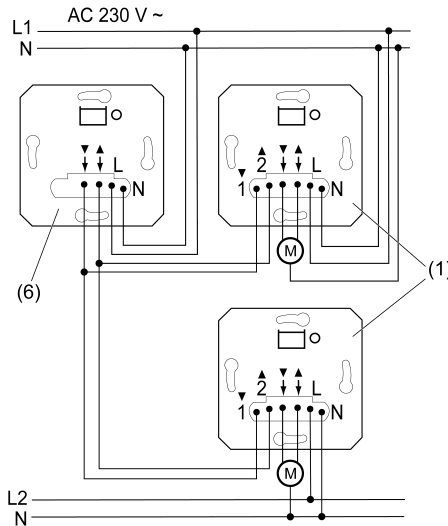

Figure 3: Connection example of group control
The Venetian blind control can be integrated into a group control (1) (Figure 3), either for local control or as a master unit (7).
- Connect the venetian blind controls according to the connection example (Figure 3). The Venetian blind inserts can also be connected to different external conductors.